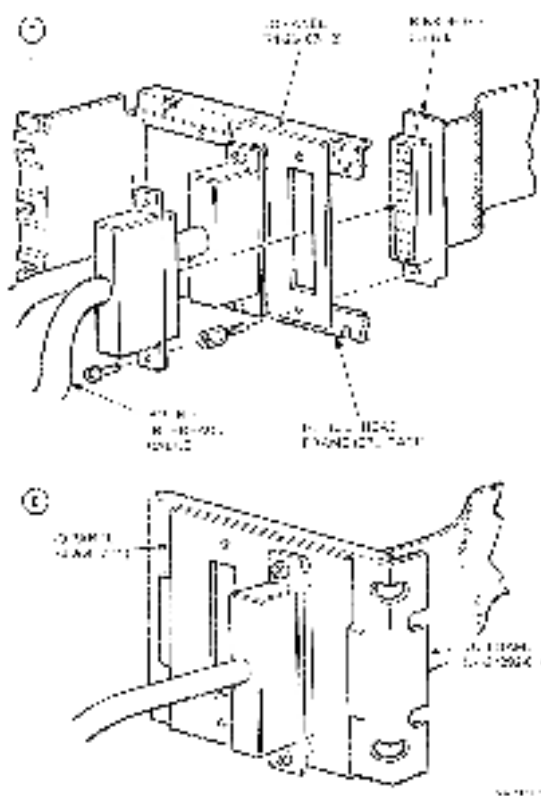

Figure 2-8 1/2" Gase Connections
3. On CPU's do not external interface cables are keyed bulkhead connectors on the CPU I/O frame (or bracket). This step connects the cables with the internal UNIBUS cables. Secure each plug with two screws (Figure 2-8).